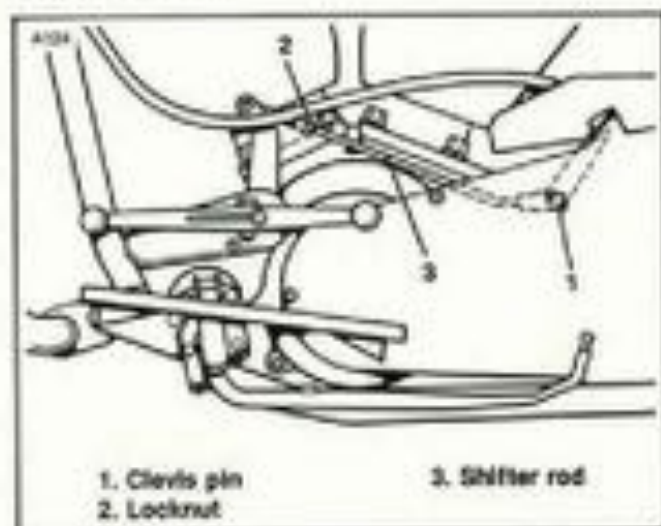

Figure 7-1. Shifter Rod — FL/FLHS/FXWG
2. See Figure 7-1. Remove the cotter pin and clevis pin (1) securing the shift rod to the shift lever.